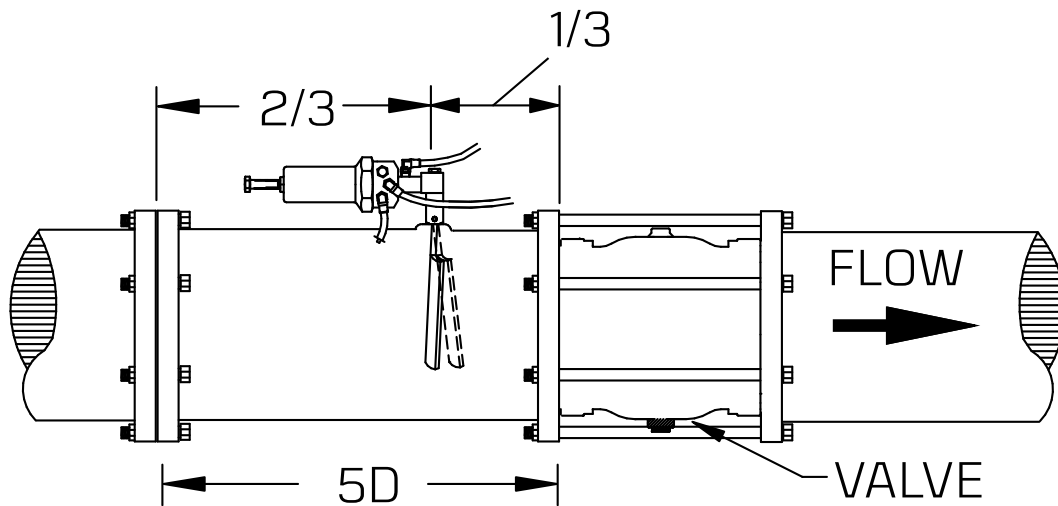

Figure 1. Five pipe diameters upstream are required for best performance.
- A **straight length of pipe five pipe diameters long** helps take out turbulence and will improve valve performance. See Figure 1. Excessive turbulence caused by fittings, pipe size changes, flow meters, and/or pumps immediately upstream of the valve can have a negative impact on valve performance or even damage the flow-sensing paddle.